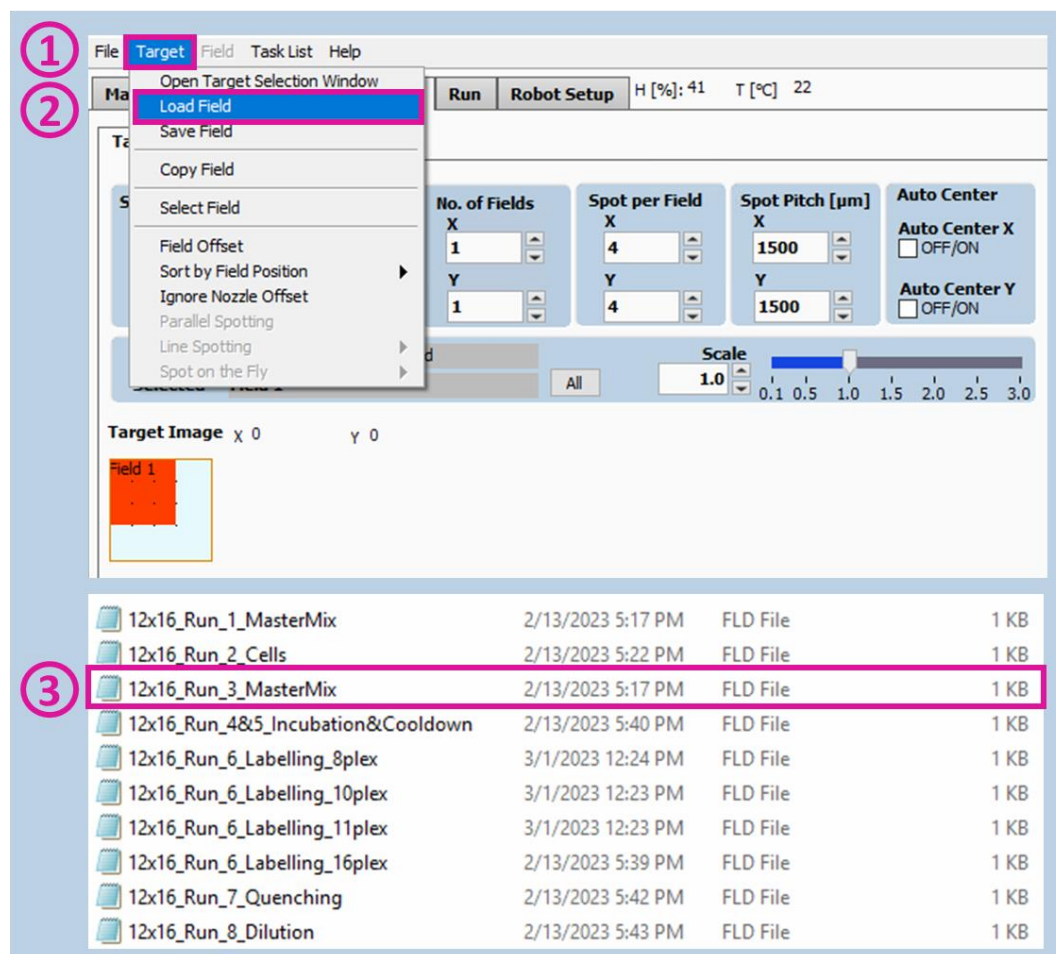

Figure 27. Load Field Run 3
“Target” (Figure 27 ①) >> “Load Field” (Figure 27 ②) >> Select the field corresponding to the run (Figure 27 ③) and you will have the field corresponding to the Figure 28.